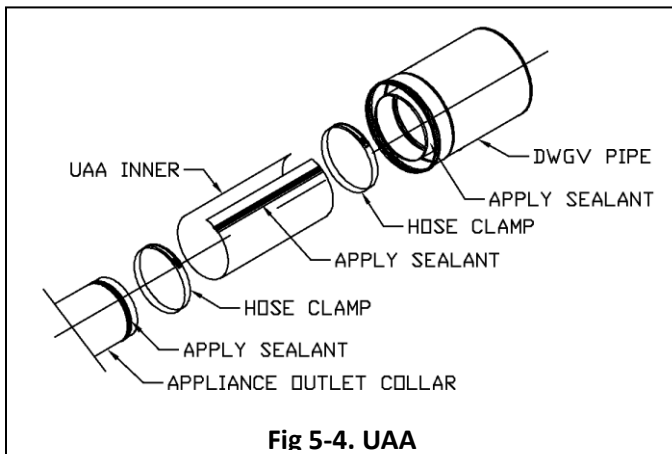

Fig 5-4. UAA
1. Align the SWGV/DWGV pipe with the appliance outlet (See Fig. 5-4)
3. Wrap the UAA inner liner around the outside surface of the flue outlet and SWGV/DWGV inner. The seam of the UAA should overlap and be sealed with sealant from step 2c. (See Fig. 5-4)